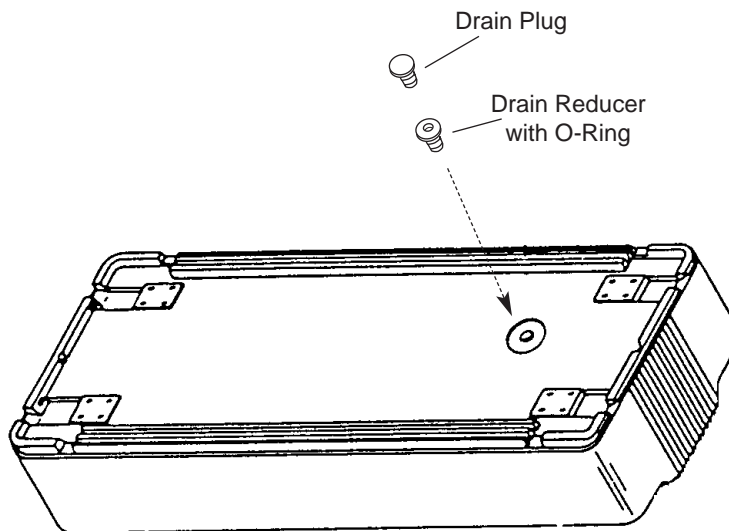

Figure 1
Step 3: Place O-ring around Reducer Ring (larger off-white, nylon insert). Thread Reducer Ring into drain hole on under side of basin. Thread Drain Plug into Reducer Ring (see Figure 1).